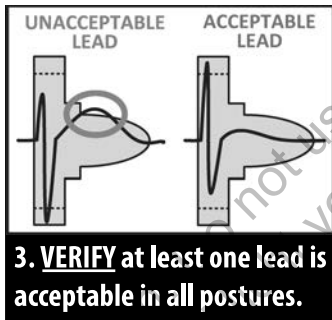

Figure 4. Evaluating the QRS Complex
- Evaluate** the QRS complex. If the entire QRS complex and trailing T-wave are contained within the colored profile, the QRS is deemed acceptable. If any portion of the QRS complex or trailing T-wave extends outside of the colored profile, the QRS is deemed unacceptable (Figure 4 Evaluating the QRS Complex on page 18). Multiple colored profiles may be used to evaluate the same surface ECG if varying QRS amplitudes are observed.